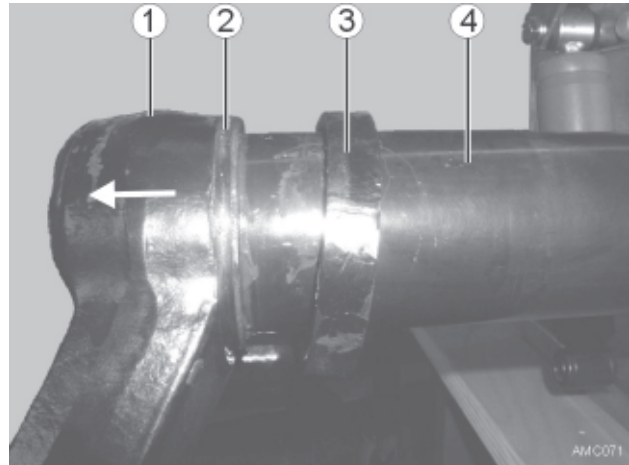

Fig. 34
16. Pull out swing arm (Fig 34-1) from axle tube (Fig 34 -4).
17. Lift sleeve (Fig 34-3) out of the slot (Fig 34 -2) in the swing arm using a screwdriver.
18. Check sleeve (Fig 34 -3), replace if necessary.